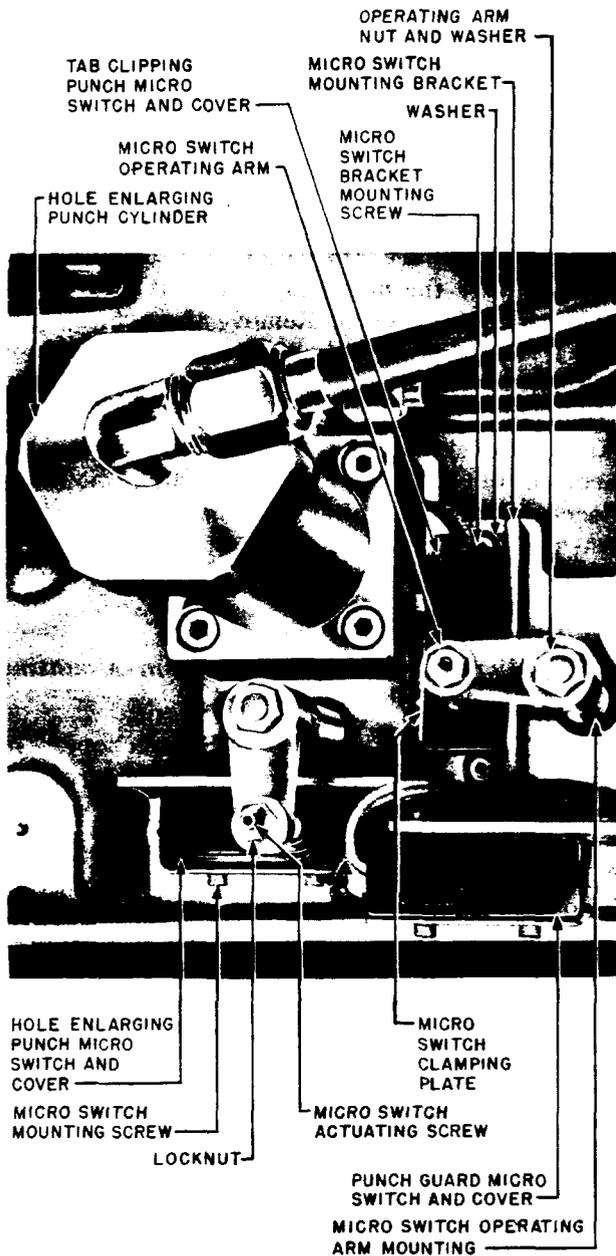

Fig. 22 — Hydraulic Shelf Assembly Micro Switches and Associated Parts (viewed from top)
(b) On the D6 Micro Switch (hole-enlarging punch Micro Switch shown in Fig. 22), disconnect the lead at the normally open terminal and connect this lead to the normally closed terminal.
3.21 *Micro-Switch Operating Arm Mounting:* Fig. 22
(1) To replace the Micro-Switch operating arm mounting, first remove the associated punch and die assembly as covered in 3.15. Then remove the Micro-Switch operating arm as covered in 3.20. Manually remove the punch coupling, locknut, and felt washer from the piston rod. Remove the clamp screw securing the arm mounting to the piston rod using the proper size Allen wrench. Remove the arm mounting by lowering it until it is clear of the piston rod and the bearing in the hydraulic shelf.
(2) Position the new operating arm mounting in the shelf bearing and on the punch cylinder piston rod so that the top of the arm mounting is 3/16 inch below the underside of the hydraulic shelf for the hole-enlarging punch cylinder and 11/32 inch for the tab-clipping punch cylinder. Insert and securely tighten the clamp screw. Remount the Micro-Switch operating arm and securely tighten the nut making sure the washer is in place. Position the Micro-Switch actuating screw so that the punch operation requirement covered in Section 076-143-701 is met.
3.22 *Punch-Guard Micro Switch (D3):* Fig. 22
3.23 Hole-Enlarging Punch Micro Switch (D6): Fig. 22 —
Fig. 22—Remove the Micro-Switch mounting bracket using the proper size Allen wrench. Remove the Micro-Switch mounting screws and clamping plate from the bracket using the proper size Allen wrench. Lift the cover off the Micro Switch and slide it back on the leads to obtain access to the Micro-Switch terminals. Transfer the terminals with leads from this Micro Switch to the corresponding terminal positions on the new Micro Switch using the 3-inch C screwdriver to remove and tighten the terminal mounting screws. Apply a small amount of KS-6824 sealing compound around the head of each Micro-Switch terminal mounting screw with the KS-14164 brush. Mount the Micro Switch and associated parts on the mounting bracket in reverse order of removal, tightening the mounting screws securely. Remount the bracket and securely tighten the screws making sure the washers are in place. Check the operation of the tab-clipping punch as covered in Section 076-143-701.